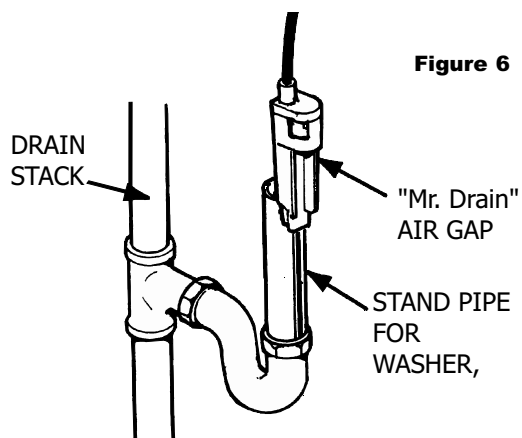

Figure 6
- Run the drain line to the air gap. The air gap must be installed between the end of the drain line and the drain to prevent possible back siphoning (see fig 6)